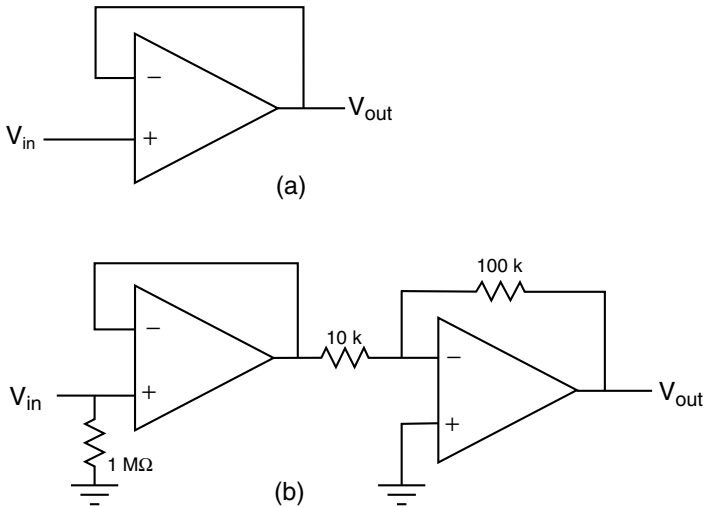

Fig. 7.6. (a) Op amp voltage follower; (b) voltage follower as the input stage to an inverting-op-amp circuit.
As shown in Fig. 7.6(a), connect the output of the op amp directly to the '−' input, and connect the output of the function generator to the '+' input of the op amp.
- ▷ Now, instead of driving the amplifier directly, insert a voltage follower as shown in Fig. 7.6(b). Record the follower output as well as the amplifier output. If the amplifier output saturates, choose a smaller feedback resistor to reduce the gain of the inverting amp. Explain your observations.